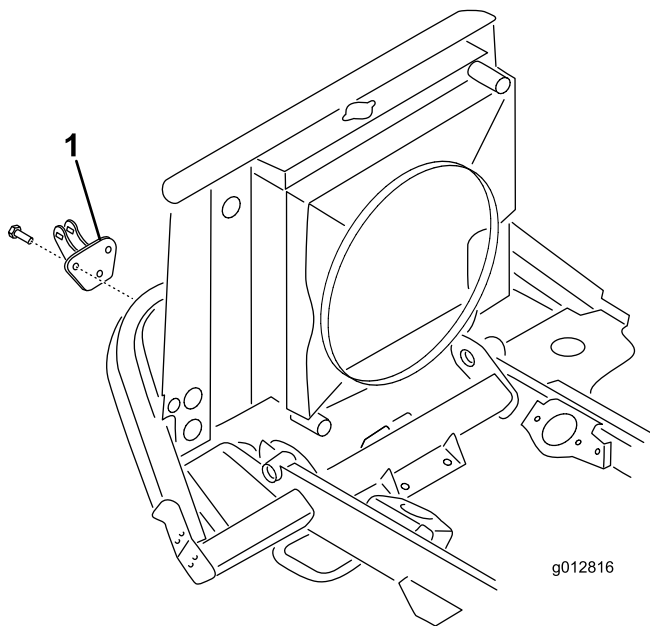

Figure 8
- Secure the link mount to the rear bumper bracket with 3 screws ($\frac{3}{8} \times 1$ inch). Position the link mount as shown in Figure 8.